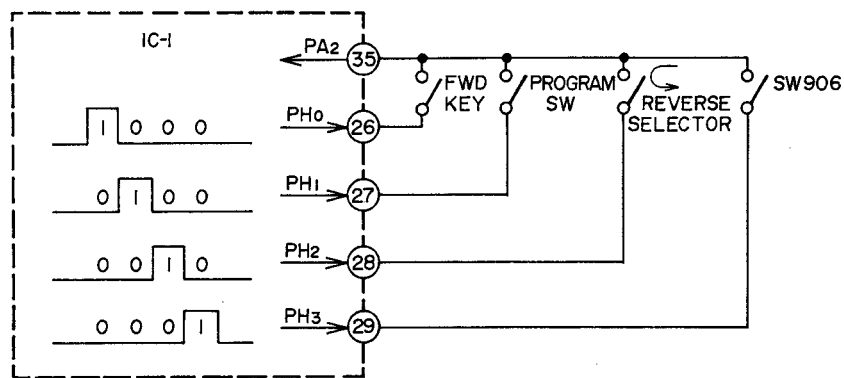

Fig. 6-27
If any input is made into (35), it is processed within the microcomputer depending on the signal and the signal is outputted from the respective terminal. If 1000 is inputted into (35), it is judged as FWD and the related signal is inputted to the output terminal. (See Fig. 6-27). Similarly, Signal 0100 from (27) passes the emitter and collector of TR86 and enters the Counter P.C Board. When the program SW (SW6) is pressed, Signal 0100 is inputted into IC1 (35). Signal 0010 from (28) passes the collector/emitter of TR87, and through D66 and the reverse selector SW (SW906), it is inputted into IC1 (35). Signal 0001 from (29) passes SR1 and SW906 and is inputted into (35).